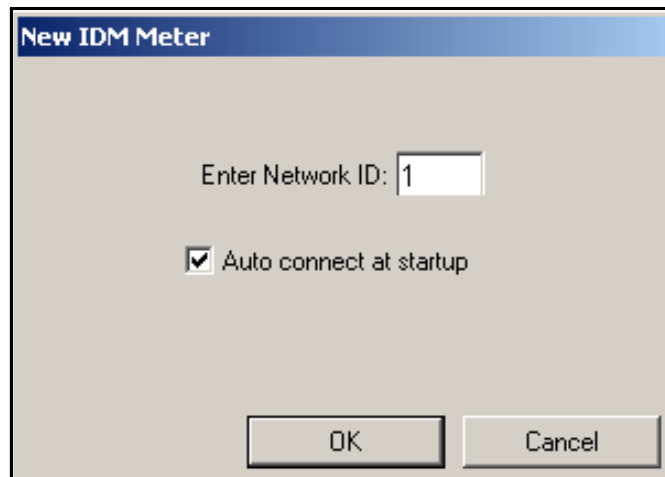

Figure 80: New IDM Meter Screen
4. The "New IDM Meter" screen (shown in Figure 80 below) opens. Enter the Network ID number for the meter, and click [OK].